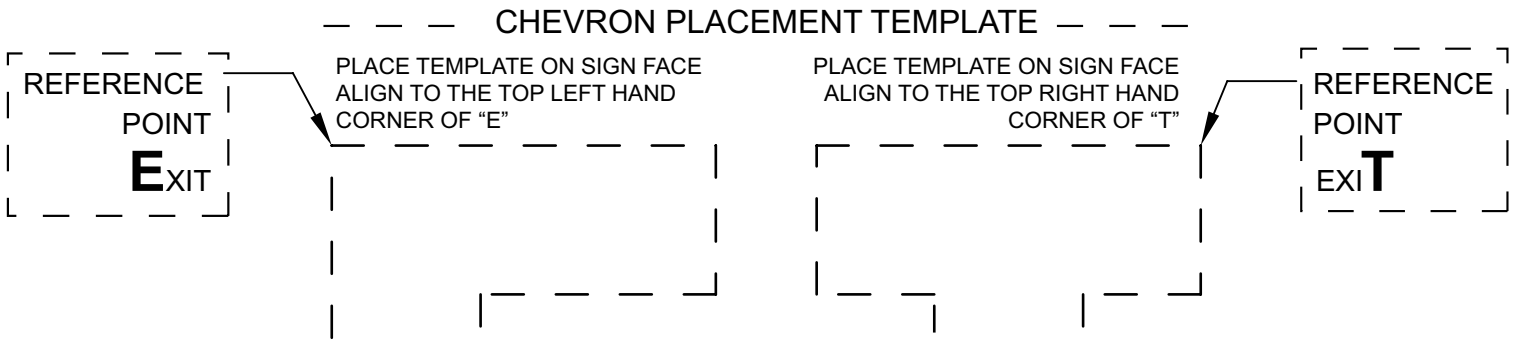

Figure 1
- a. Exit sign internal wiring is already pulled into the canopy and all wires are labelled. Connect AC supply per diagram provided (Figure 1) . Insulate unused wire! CAUTION! - Failure to insulate unused wire may result in a shock hazard or unsafe condition as well as equipment failure.
1. For self-powered models, plug the battery into the circuit board per (Figure 1) self-powered sign.